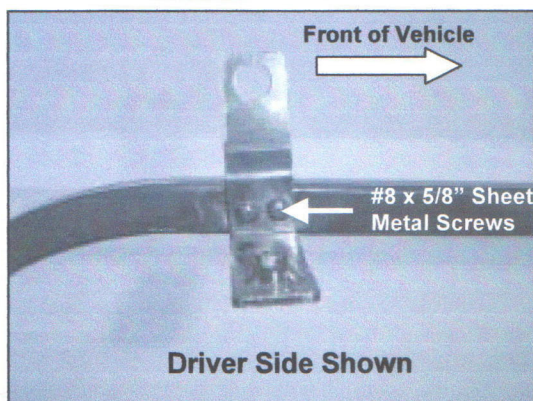

Figure 2
2. Locate Driver Side Door Surround **(L)**, Front **(M)**, and Rear **(N)** Door Surround Bracket, (4) #8 x 5/8" Sheet Metal Screws **(H)**. Attach Front and Rear Brackets to Door Surround with hardware listed in this step (Figure 2 & 3). **NOTE:** The Threaded Nipple on both brackets should face up and towards the inside of the vehicle.